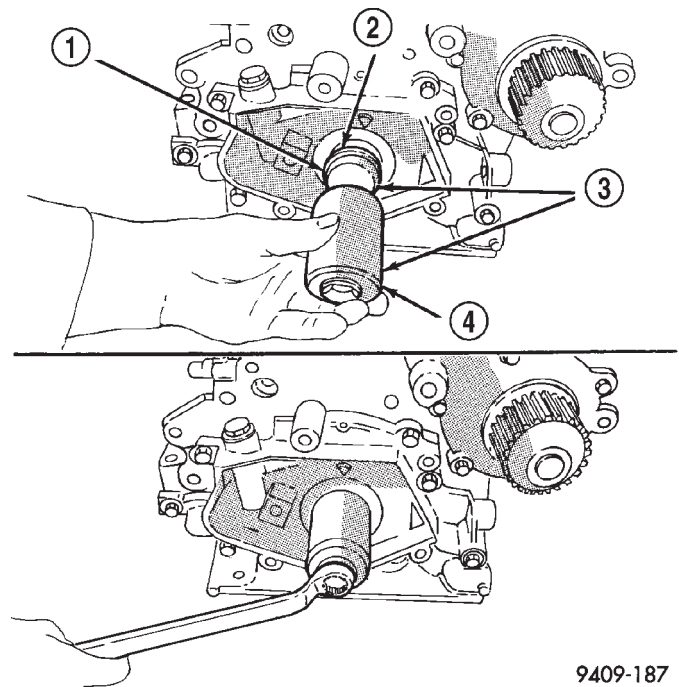

Fig. 87 Front Crankshaft Oil Seal—Installation
(1) Position seal into opening with seal spring towards the inside of engine. Using Special Tool 6780-1 (Fig. 87), install seal until flush with cover.